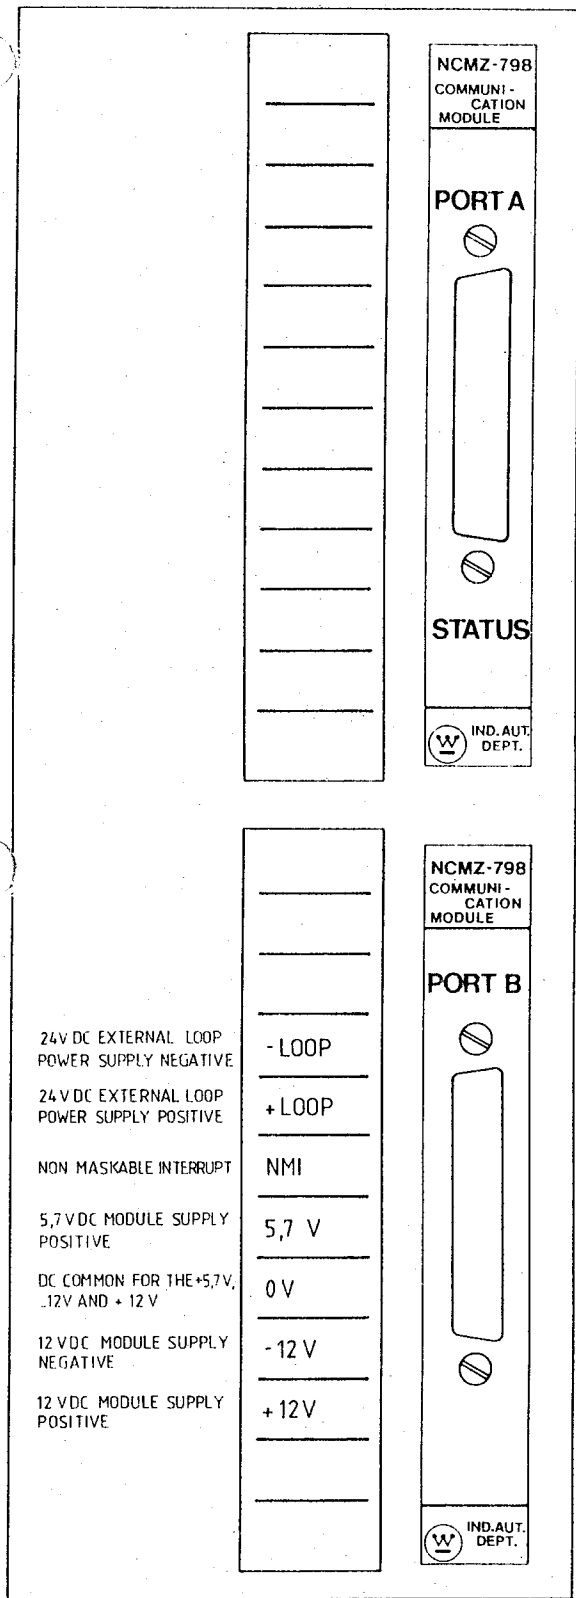

Figure 2 - Terminal Identification
No wiring shall be connected to the I/O Rack Terminals indicated '—Loop' and '+Loop' (see figure 2) in this mode of operation.
**Step 2** — Connect the power supply wiring to the I/O Rack terminals. (See figure 2)